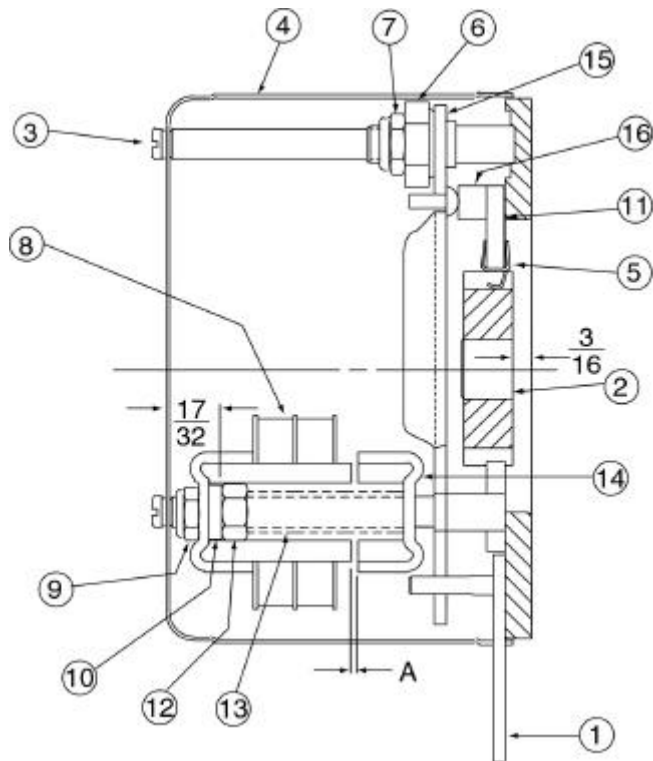

Figure 4. Brake Gap Adjustment
MANUAL RELEASE (See Figure 4)
FRICION DISC REPLACEMENT (See Figure 4)
1. Remove the three cover screws (3), cover (4), nuts (9), magnet assembly (8), washers (10), nuts (12), torque springs (13), armature (14), nut (7), nut (6), pressure arm (15) and stationary disc (16).
2. Install new rotating disc (11) making sure anti-rattle spring (5) is installed in position shown and does not rest in a hub tooth space containing a set screw.
NOTE: In reassembly, tighten nut (6) so that it just makes contact with pressure arm (15). LOCATE nut (12) 1/2" from end of stud as shown in Figure 4. Tighten nut (9) as described under MAGNET ASSEMBLY REPLACEMENT. Readjust magnet air gap as described under WEAR ADJUSTMENT.
WEAR ADJUSTMENT (See Figure 4).
MAGNET ASSEMBLY REPLACEMENT (See Figure 4)